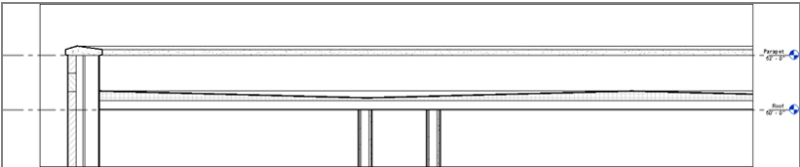

FIGURE 7.19 : By adding the points to the roof, you now have an almost perfect section.
- 8. Adjust the crop region so you're looking only at the roof area, as shown in Figure 7.19. Zoom to fit.